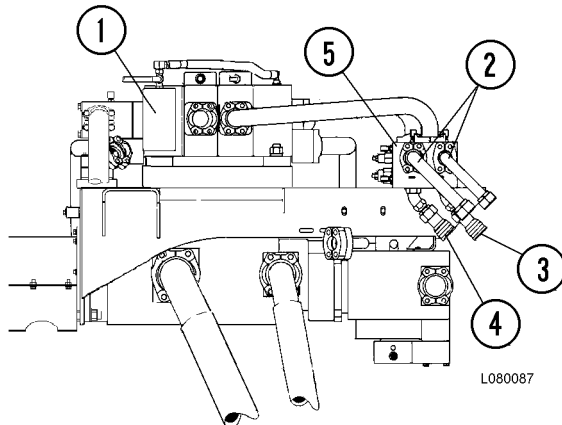

FIGURE 30-6. PUMP MODULE, HOSE HOOKUP
Figure 30-6 illustrates a typical hookup from the good truck. The disabled truck may be the same truck model or a different Komatsu truck model.
3. Attach a hose from **power up** quick disconnect (4, Figure 30-6) to the **power down** circuit of the disabled truck.
NOTE: If both trucks are the same model, the hoses will be installed at the quick disconnects shown in Figure 30-6 and will be crossed when connected.